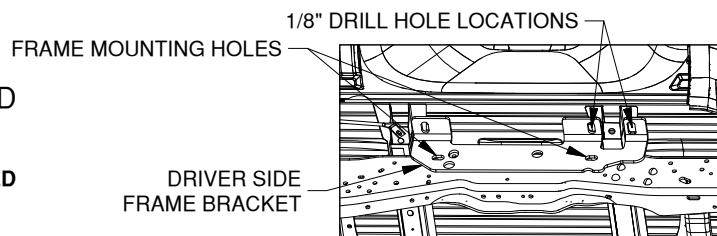

Figure A3: View looking into driver side wheel well.
- 3. Check hole locations:** Using the frame brackets, align each bracket to the side of the frame where the brackets will be installed, see figures A3 & A4. Check that the 1/8" holes are centered within the slots in the frame brackets. If the 1/8" drilled holes are not centered re-drill the 1/8" holes until the brackets and the drilled holes are aligned.